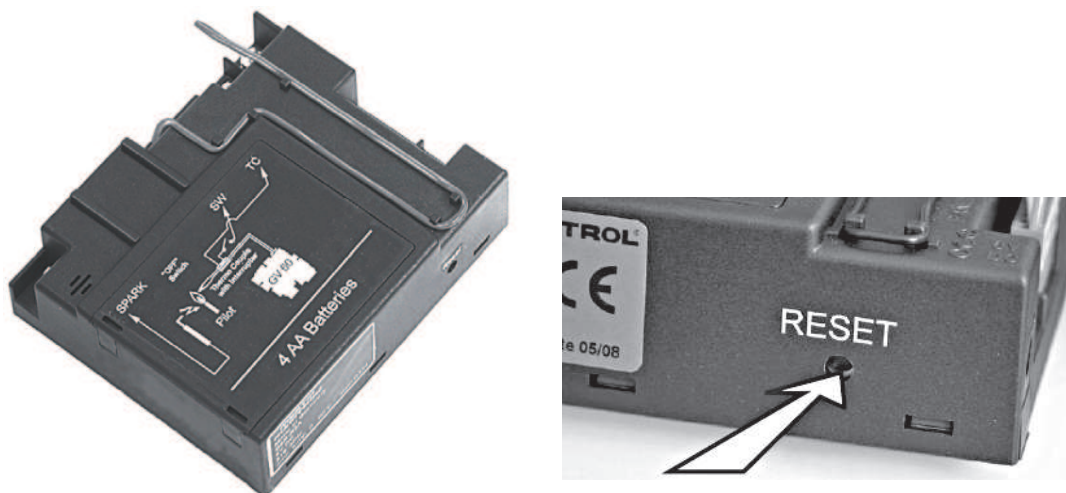

Figure 3: Receiver “RESET” button
- Press the **"RESET"** button on the receiver, and keep this pressed until 2 beeps are heard. See figure 3.